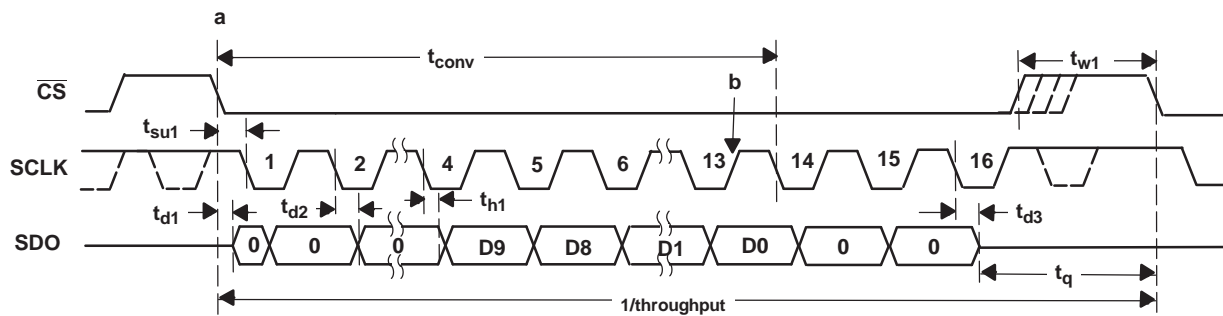

Figure 1. Interface Timing Diagram
**TIMING REQUIREMENTS (see Figure 1)**
The cycle begins with the falling edge of  $\overline{CS}$ . This point is indicated as **a** in Figure 1. With the falling edge of  $\overline{CS}$ , the input signal is sampled and the conversion process is initiated. The device outputs data while the conversion is in progress. The data word contains 4 leading zeros, followed by 10-bit data in MSB first format and padded by 2 lagging zeros.
The falling edge of  $\overline{CS}$  clocks out the first zero, and a zero is clocked out on every falling edge of the clock until the third edge. Data is in MSB first format with the MSB being clocked out on the 4th falling edge. Data is padded with two lagging zeros as shown in Figure 1. On the 16th falling edge of SCLK, SDO goes to the 3-state condition. The conversion ends on the 14th falling edge of SCLK. The device enters the acquisition phase on the first rising edge of SCLK after the 13th falling edge. This point is indicated by **b** in Figure 1.